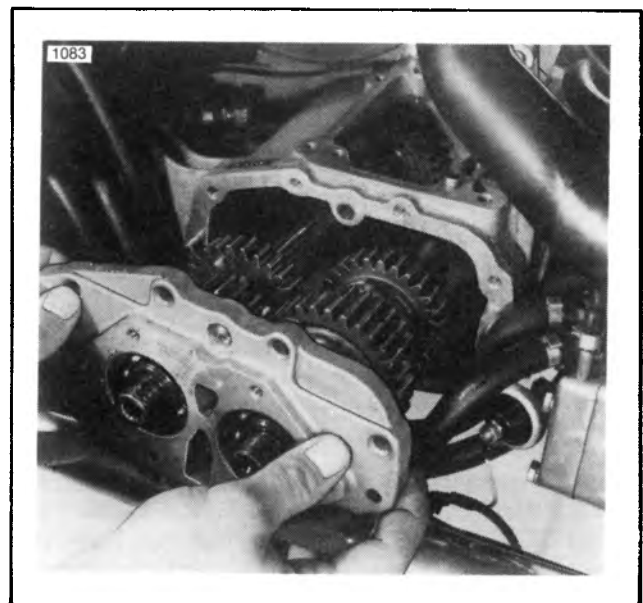

Figure 7-14. Transmission Side Door Removal
5. See Figure 7-14. Remove the transmission side door mounting hardware. Pull the side door, mainshaft and countershaft from transmission case as an assembly.